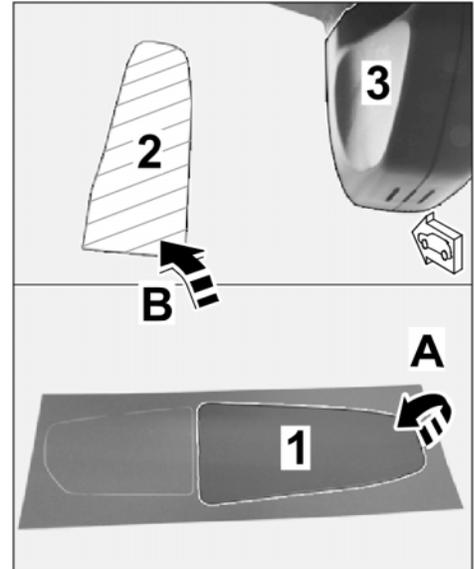

Figure 9
2.2.1 Peel backing sheet off 3M privacy film. ⇒ *Figure 9-A-*
2.2.2 Position 3M privacy film on marked bonding surface on windscreen. ⇒ *Figure 9-B-*